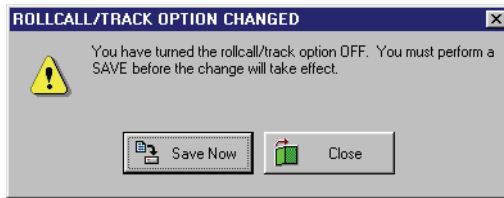

Figure 2-24: Rollcall/Track Option Changed Warning - OFF
1. To disable Rollcall/Track, click in the Rollcall/Track ON check box. The check mark that was there disappears and the following window appears (see Figure 2-24).